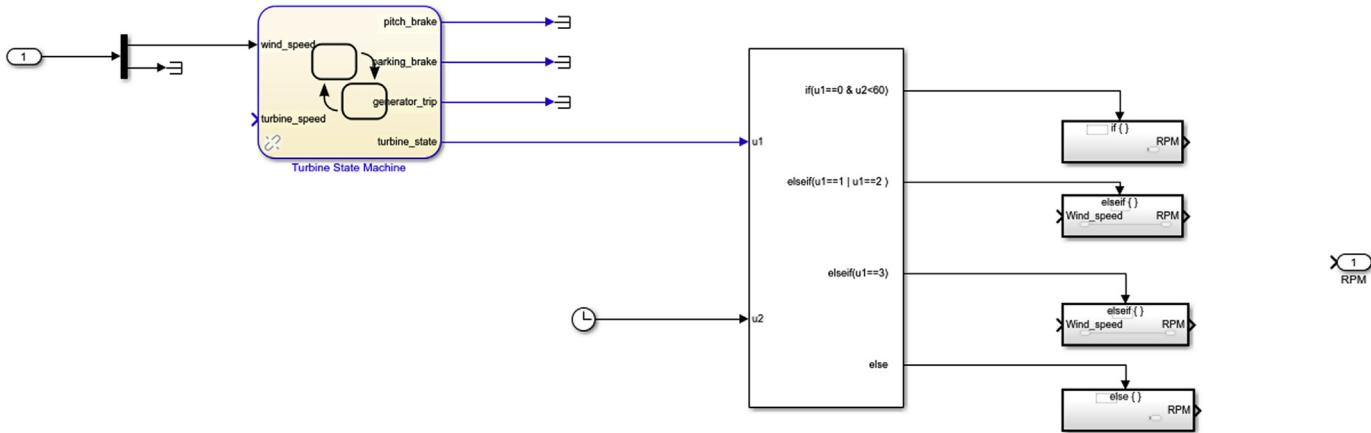

Figure 10.22 If action subsystems for the If cases.
- 8. Insert four **If Action Subsystem** blocks and align them vertically to the right of the **If** block. Connect the case of the **If** block to the respective **If Action Subsystem** block. Next, delete the import of the **If Action Subsystem** connected to the $u1==0$ and $u2<60$ case and also the else case. Name outputs of **all the If Action Subsystem** as RPM and the remaining imports as Wind_speed. The updated model is shown in Fig. 10.22.